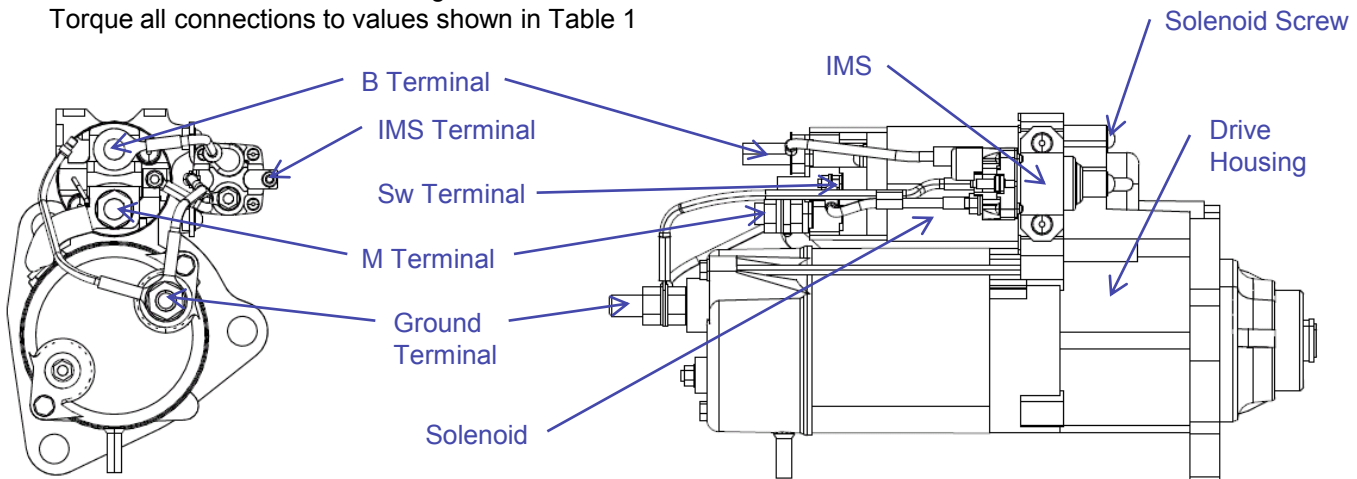

Figure 1: Starter Component Locations
- 4) Re-connect wires as shown in Figure 1